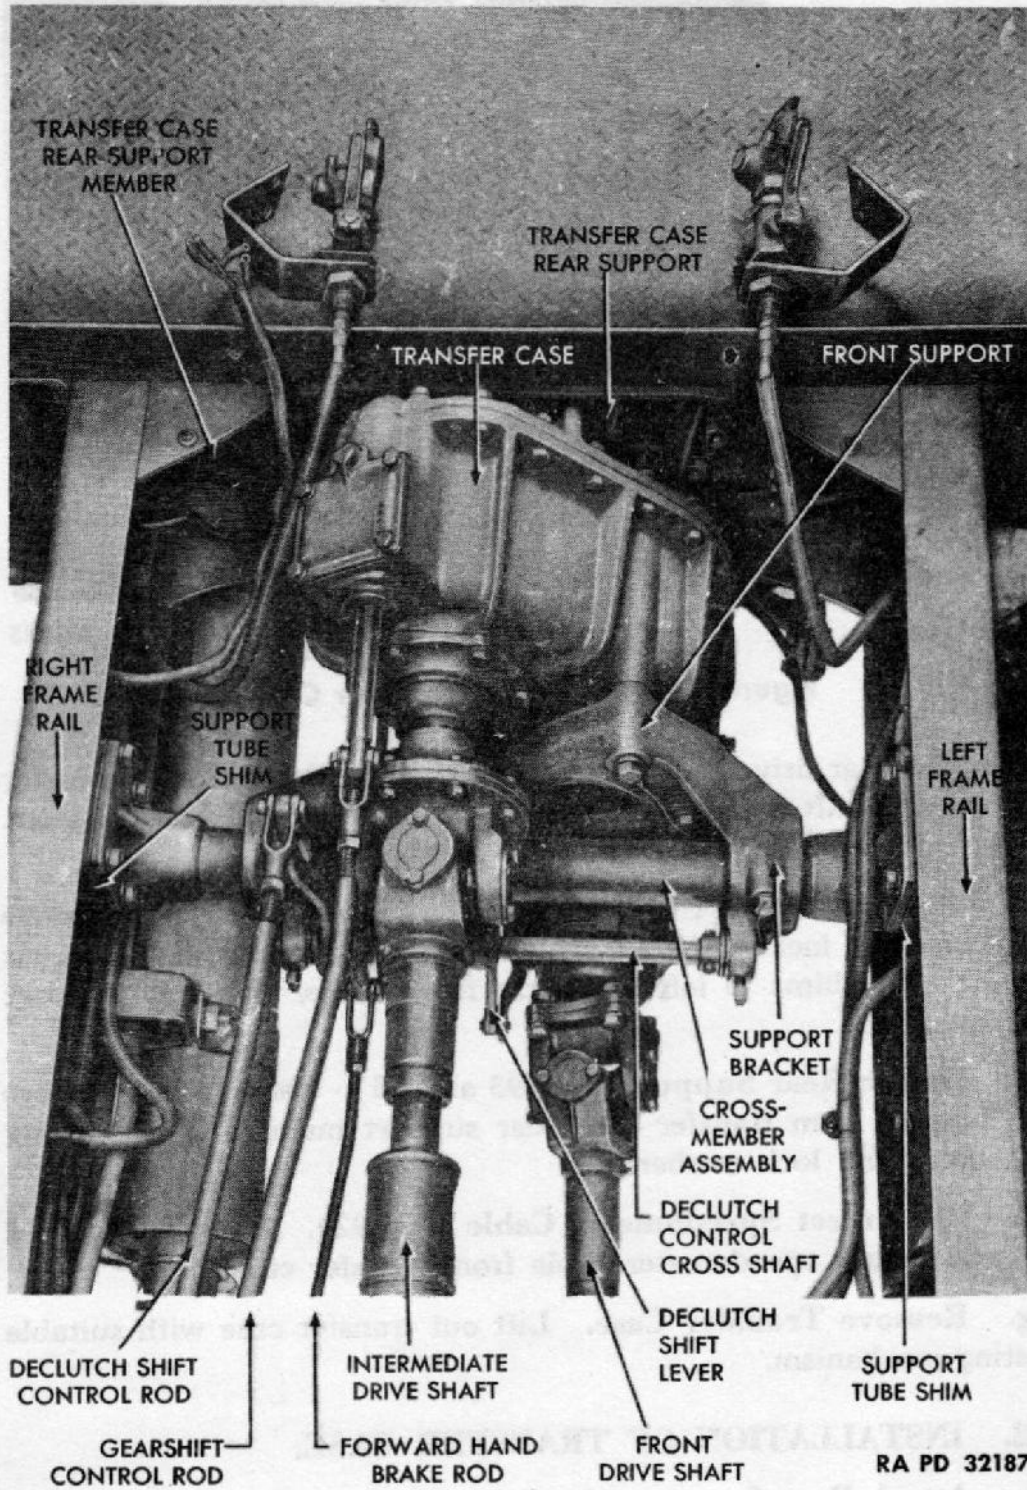

Figure 93 — Transfer Case Installed
a. **Description** (fig. 93). The transfer case is mounted at the rear of the main transmission. It transfers engine power through the propeller shafts from the transmission to the front and rear axles. Gears are arranged for two speeds—one direct (high range) and the other (low range) underdrive. Selection of speed is provided through linkage attached to a lever in the cab. Provision is also made to engage or disengage the front axle through linkage attached to the declutch lever in the cab. The truck cannot be operated in low range with the front axle disengaged. Make range changes when the vehicle is stopped.
d. **Remove Support Tube and Shims** (figs. 93 and 95). Remove nuts, bolts, and lock washers attaching transfer case support tube and support tube shims to left and right frame rails. Lift out support tube and shims.
e. **Detach Rear Support** (figs. 93 and 95). Detach transfer case rear support from transfer case rear support member by removing nuts, bolts, and lock washers.
b. Install Support Tube and Shims (figs. 93 and 95). Place support tube shims against frame rails. Lift support tube into position between shims, and attach both to frame rails with lock washers, bolts, and nuts. Attach bracket supporting speedometer cable to lower left attaching bolt.